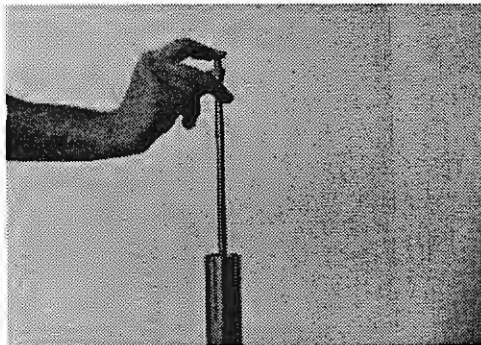

Figure 5.11
**Note:** Keep your finger over the end of the cartridge stem to prevent the damper valve from being lost. (Figure 5.11)